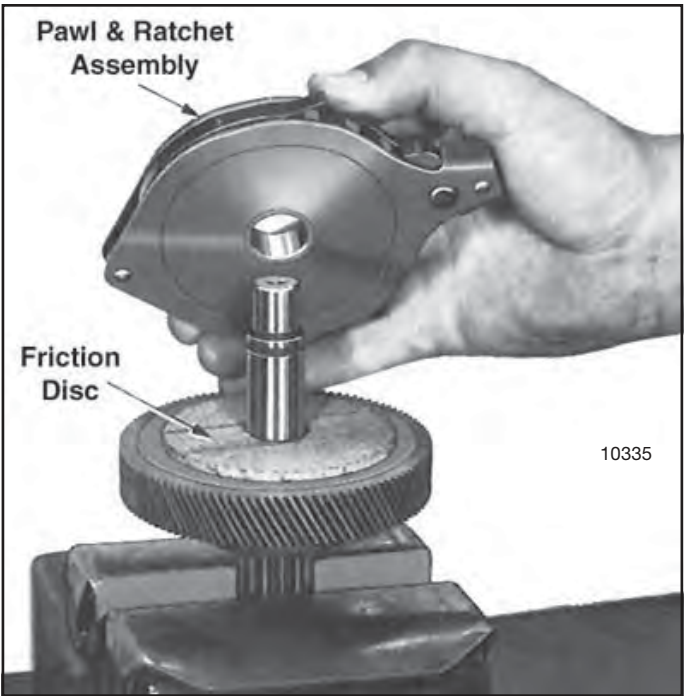

Figure 7-23. Removing Pawl and Ratchet Assembly from Load Brake Shaft
(2) Using a puller tool, remove brake flange from shaft. A groove is provided around outer diameter for this purpose. See figure 7-22. Remove key from shaft and lift off 2 friction discs, and the pawl and ratchet assembly (fig. 7-23).
(4) When installing pawl and ratchet assembly on load brake shaft, be certain that teeth on ratchet face are in the same direction as shown in fig. 7-23. The ratchet assembly should rotate freely when turned counterclockwise and the pawl should engage ratchet teeth when unit is turned clockwise.